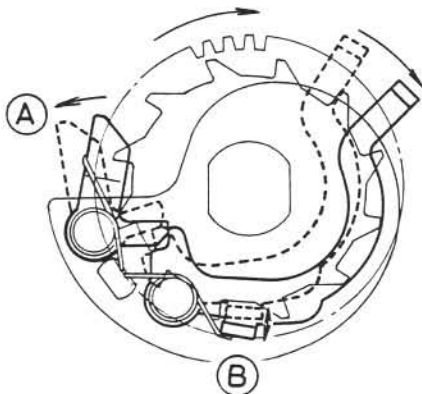

Fig. 15
2. Turn the gear in the arrow direction as shown in Fig. 15 to set the ratchet indicated by B between teeth.
3. The B part of the ratchet goes into the teeth when the A part is pulled in the arrow direction as indicated by the dot line as shown in Fig. 15.